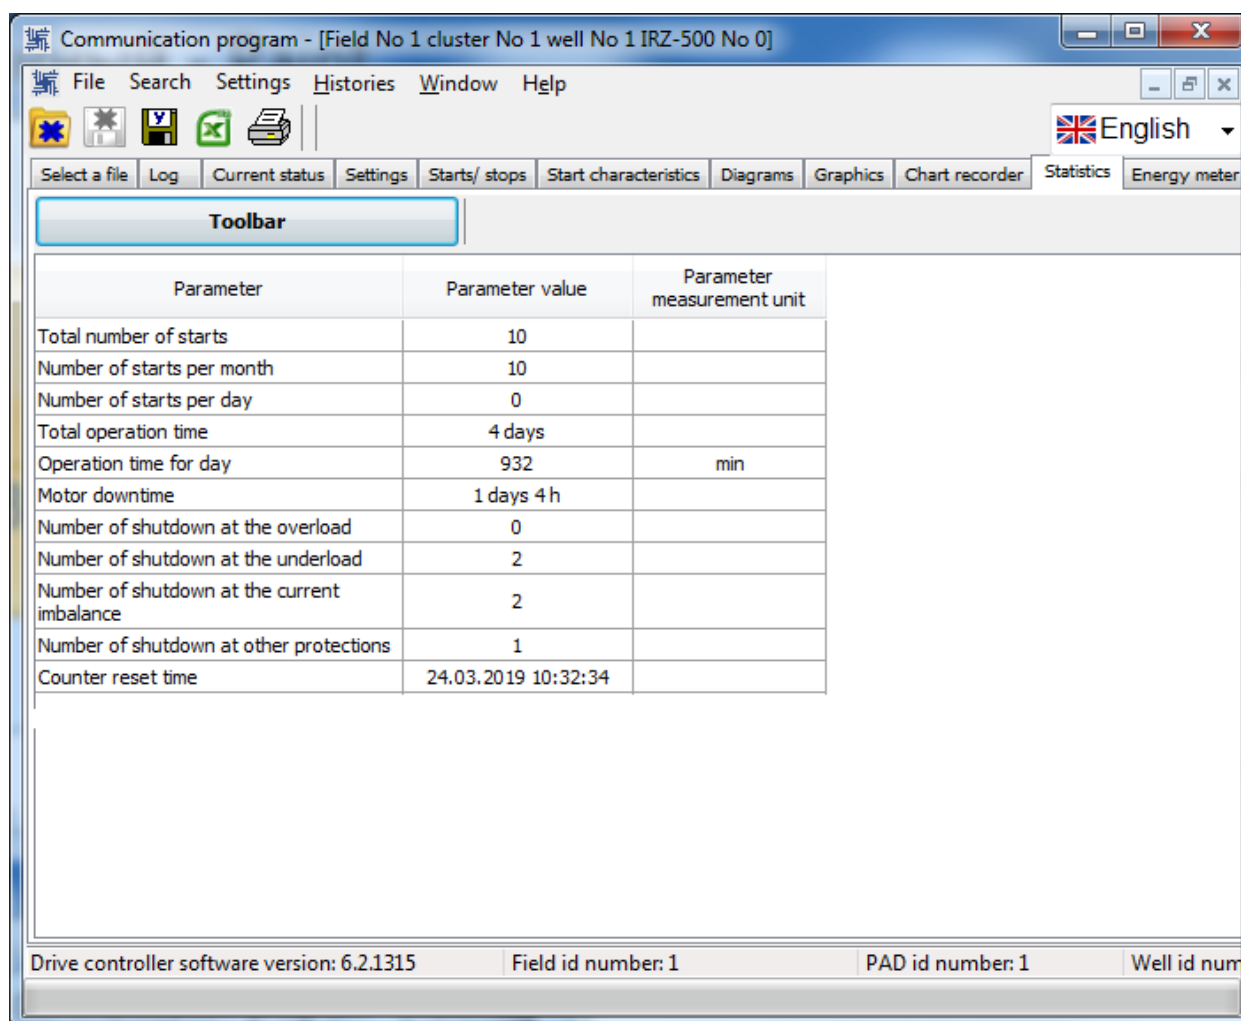

Fig. 42
**Statistics** tab contains drive statistics parameters and operation hours. Parameters displayed are the values actual at the time of the log archive reading from the drive. Figure 42 indicates **Statistics** tab.